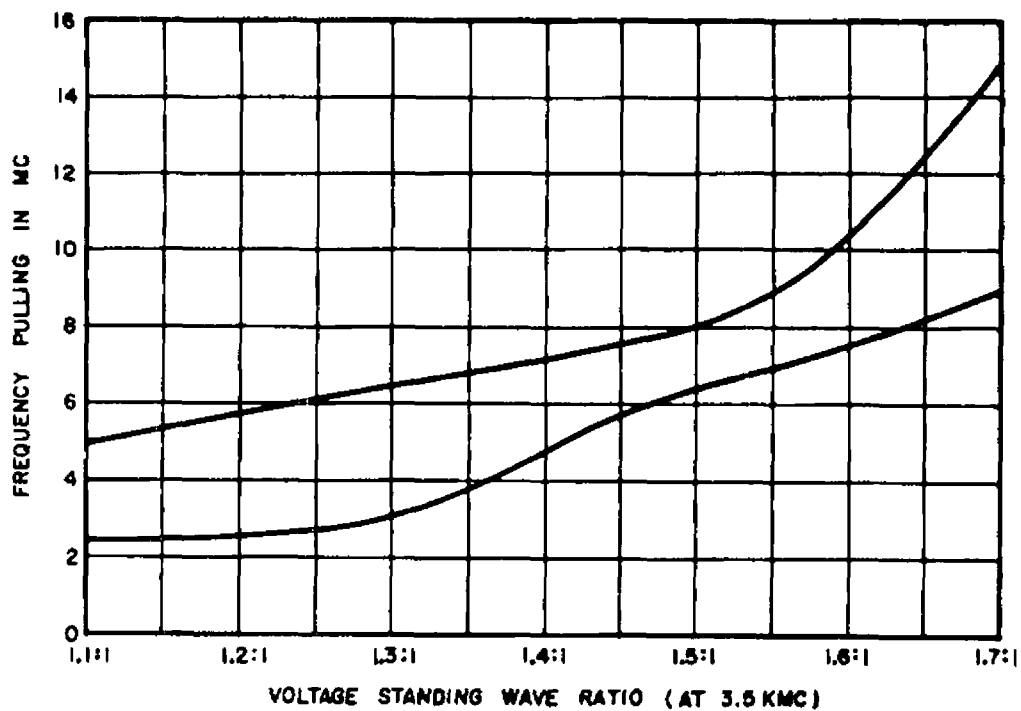

FIG. 7
- Figure 7 This is a plot of frequency pulling relative to VSWR and represents the greatest variations wherever encountered in the full frequency tuning band.